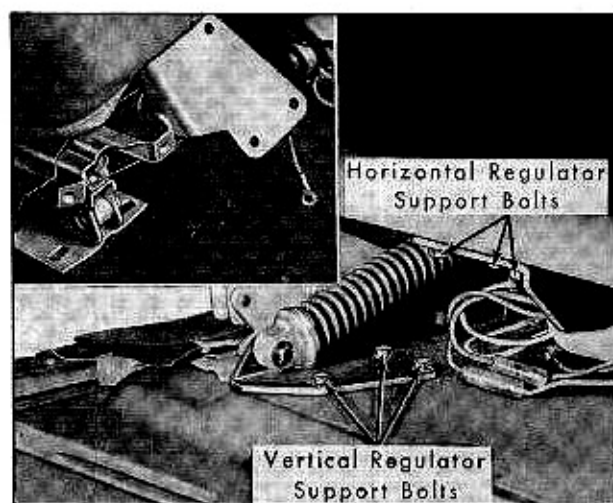

Fig. 3-58 Detaching Vertical Regulator Support
5. Under front of seat, remove vertical regulator support screws and tie regulator to the horizontal equalizing rod as shown in inset, Fig. 3-58.